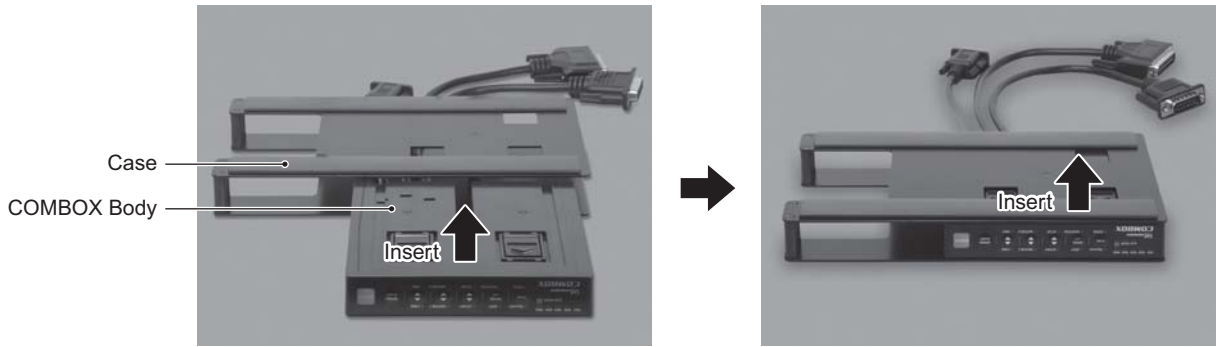

Fig. 10
- (2) Insert the COMBOX completely into the Case as shown in the Fig. 10.
- (3) After inserted, make sure that COMBOX Body is completely fixed to the Case.